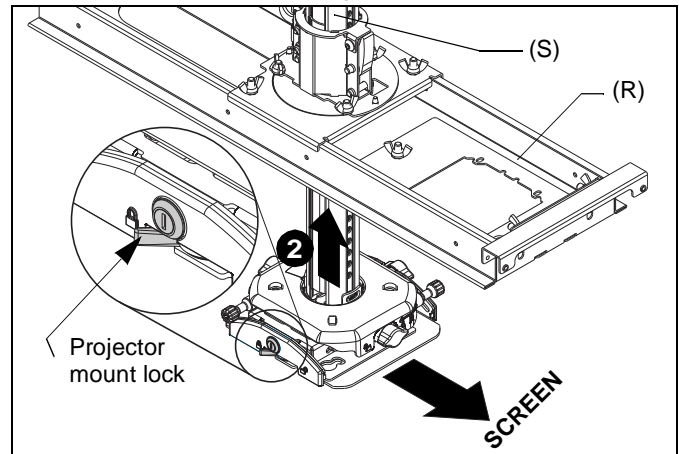

Figure 17
**NOTE:** Be sure to line up the projector mount so that it faces the screen. The projector mount lock will appear on the left side of the assembly. (See Figure 17)
2. Install projector mount and column (S) from underneath and up through suspended ceiling plate assembly (R). (See Figure 17)